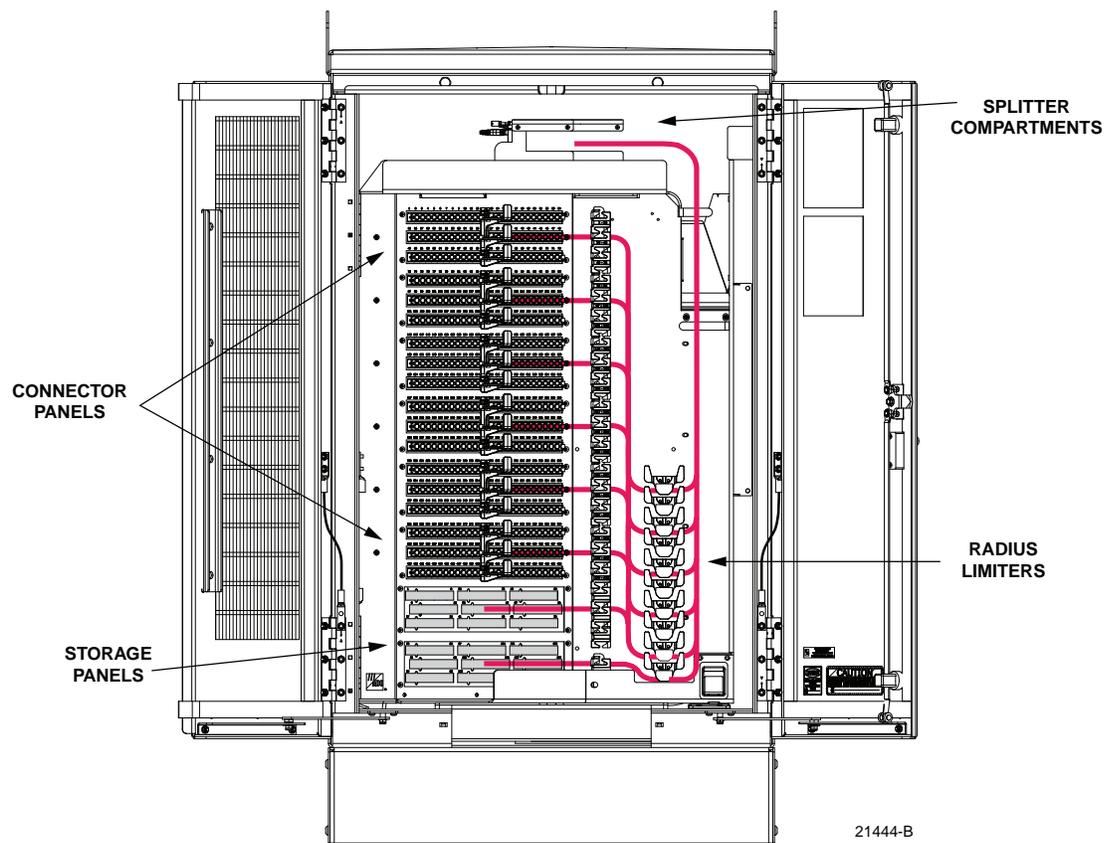

Figure 27. Routing Splitter Output Fibers
3. Use the radius limiters on the right side of the cabinet to store any excess fiber slack. Refer to Figure 27 for the routing guidelines.
6. Use the radius limiters on the right side of the cabinet to store any excess fiber slack. Refer to Figure 27 for the routing guidelines